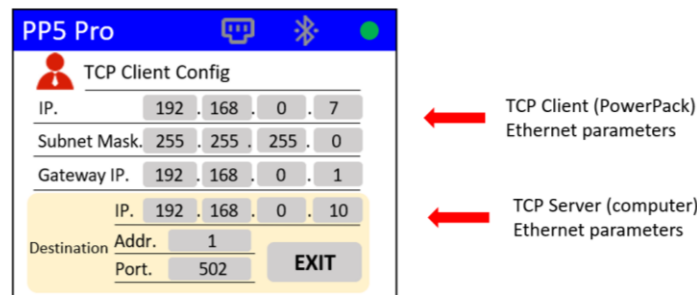

Figure 13
10. View the sensor reading by accessing the specified slave address - 1 (refer to figure 13,) and register address (please refer to figure 16 - TCP Client Regmap).